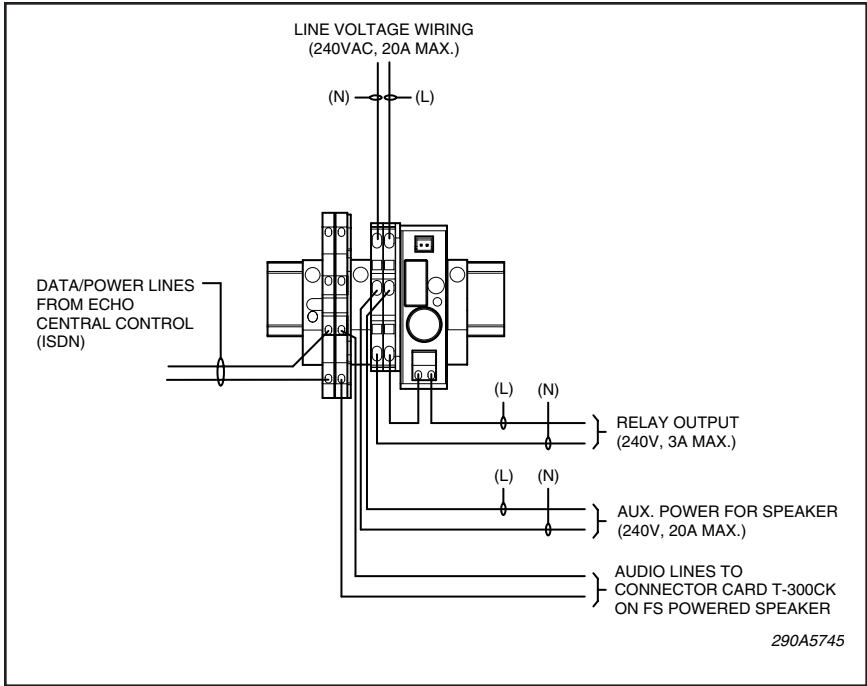

Figure 1.
- e. A series of DIN rail mount terminal blocks are provided for field wiring. See Figure 1 for wiring diagram. These terminals are rated as follows:
- (1). Relay Output: 18-12 AWG (0.75 – 4 mm²), Tightening torque 3.4 in-lb (0.4 Nm), 240VAC, 3.0A max.
- (2). Aux. Power: 18-12 AWG (0.75 – 4mm²), 240VAC, 20A max.
- (3). Audio/ISDN: 26-12 AWG (0.25 – 4mm²), Cu conductors only